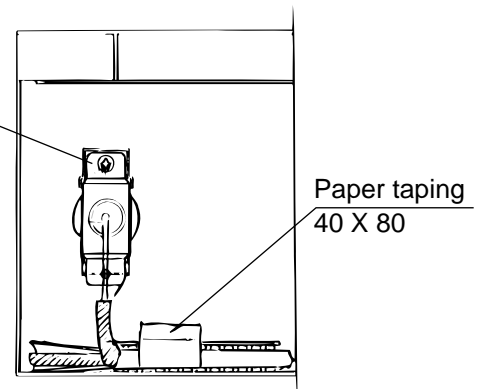

Fig. A-19
4. Fix R thermostat with screw and make up the tube of R thermostat as shown Fig. A-19.